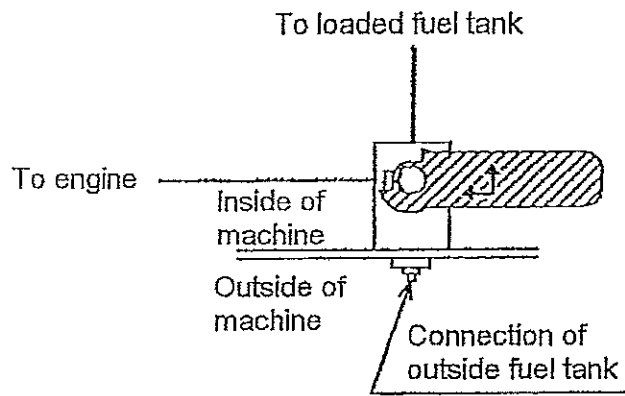
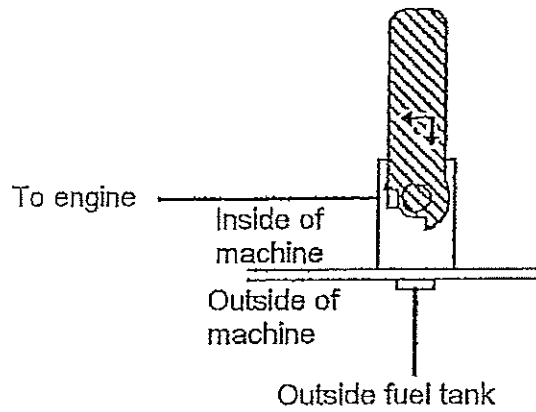

Fig.1 Use of loaded fuel tank
Fig.2 Use of outside fuel tank
(2) Operating procedure
- ① The fuel piping and the change-over valve lever are set as shown in Fig.1 before the machine is shipped. If the fuel is to be supplied from the machine loaded tank, operate the machine with setting left as such.
- ② If the outside machine tank is to be used for fuel supply, remove the two plugs for connection of the outside machine tank and pipe it as illustrated in Fig.2, then turn the change-over valve in the arrow indicated direction before operating the machine.
- ③ If the outside machine tank is not used with the piping removed from it, be sure to return the change-over valve lever to the position as shown in Fig.1 and screw in the two plugs.
(3) Precaution in piping and operation
- ① For the piping, use an oil resistant pipe with an inside diameter of approximately 8 to 10 mm.
- ② Install the outside machine tank as near to the machine as possible and as the fuel level is within from 0 to +3m for the ground.
- ③ In piping the outside machine tank, leave the position of the change-over valve lever as shown in Fig.1 until the piping is complete before turning it to the position as shown in Fig.2.
- ④ Set the suction pipe 15 to 20 mm above the tank bottom to prevent it from drawing in water and/or foreign matter present in the tank. (See Section A in Fig.2.)
- ⑤ Take good care to avoid entry of water and or foreign matter into outside machine tank.